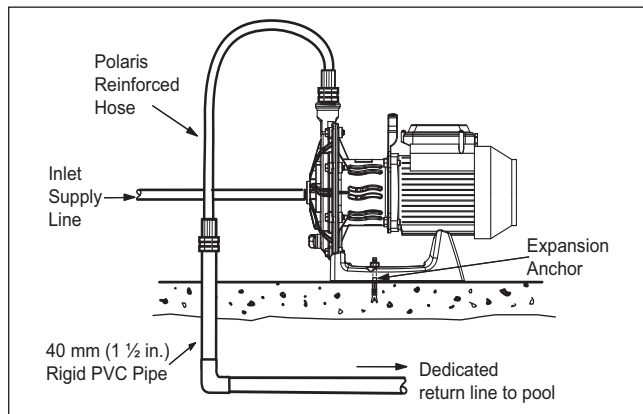

Figure 6. Complete Installation.
1. Verify that the installation is correct. Refer to Figure 6.